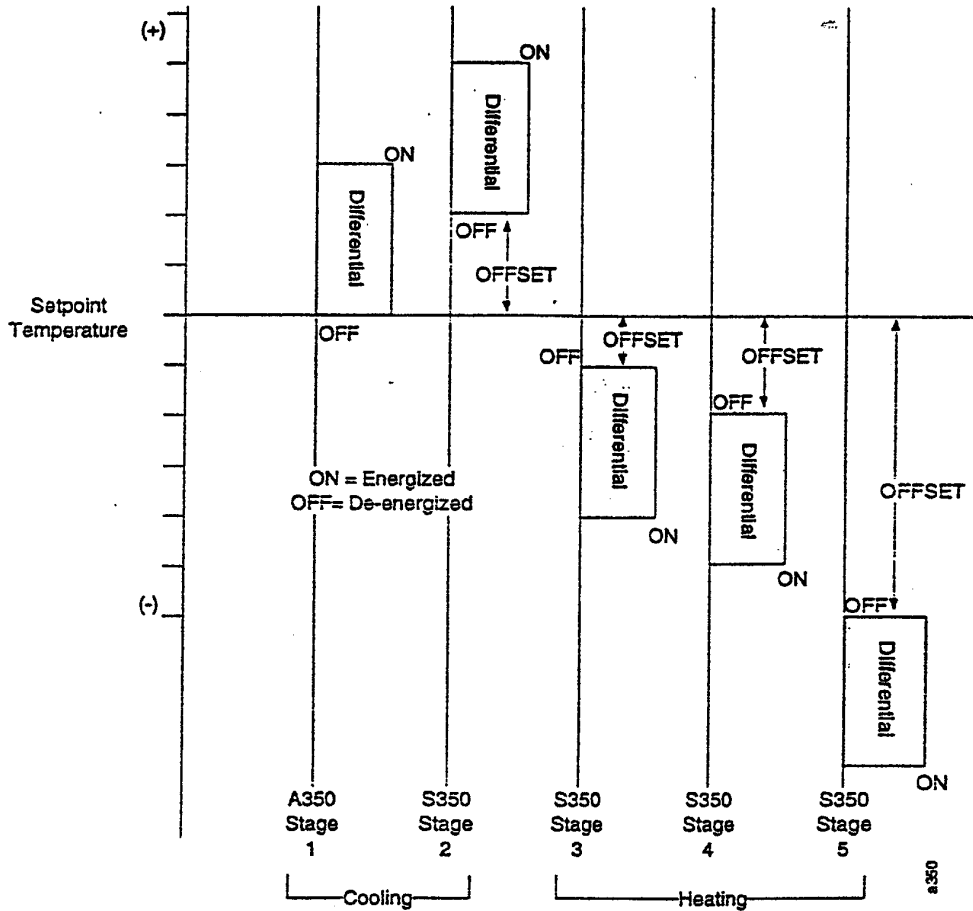

Figure 7: Typical Multistage Heating/Cooling Application
3. Adjust the differential potentiometer "DIFF" as desired (the number of degrees between relay energized and de-energized). Clockwise rotation increases the differential. Refer to Figure 7 for a sample multistage application if needed.
3. Adjust the S350's differential potentiometer "DIFF" to the desired setting. See Figure 7 for a sample multistage application if needed.